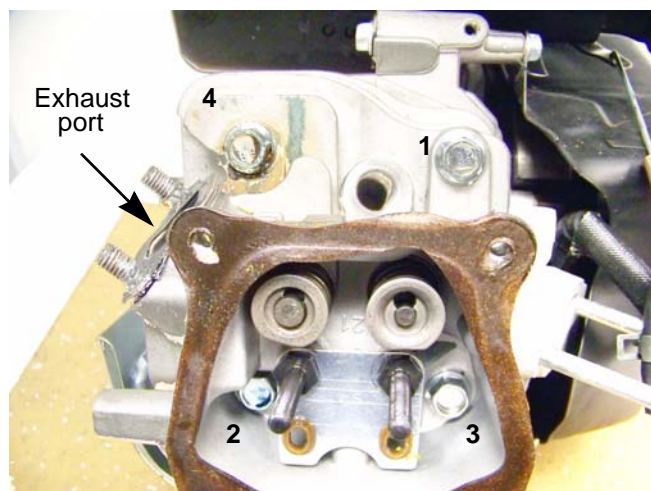

Figure 9.9
18. Install the 4 head bolts, and tighten them to a step torque of 16 - 18 ft-lb. (22 - 25 Nm) in an alternating diagonal pattern. See Figure 9.9.